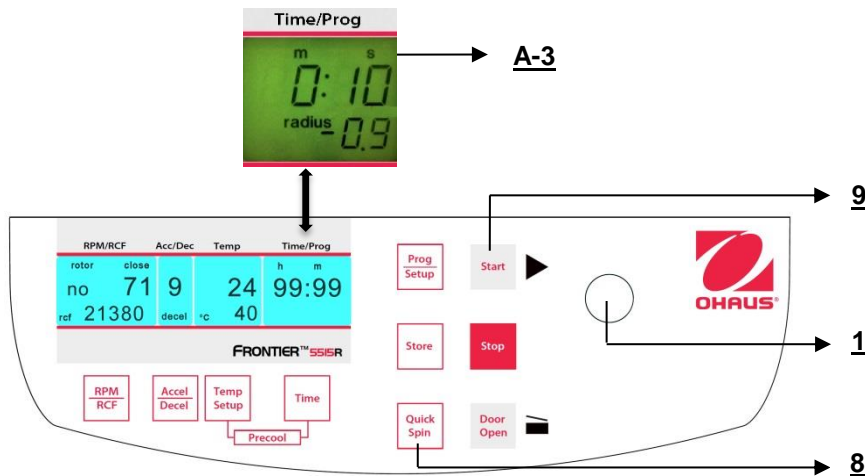

Figure. 26
You can start the centrifuge either with the "Start" key (9) (refer to figure 26) or the "Quick Spin" key (8).